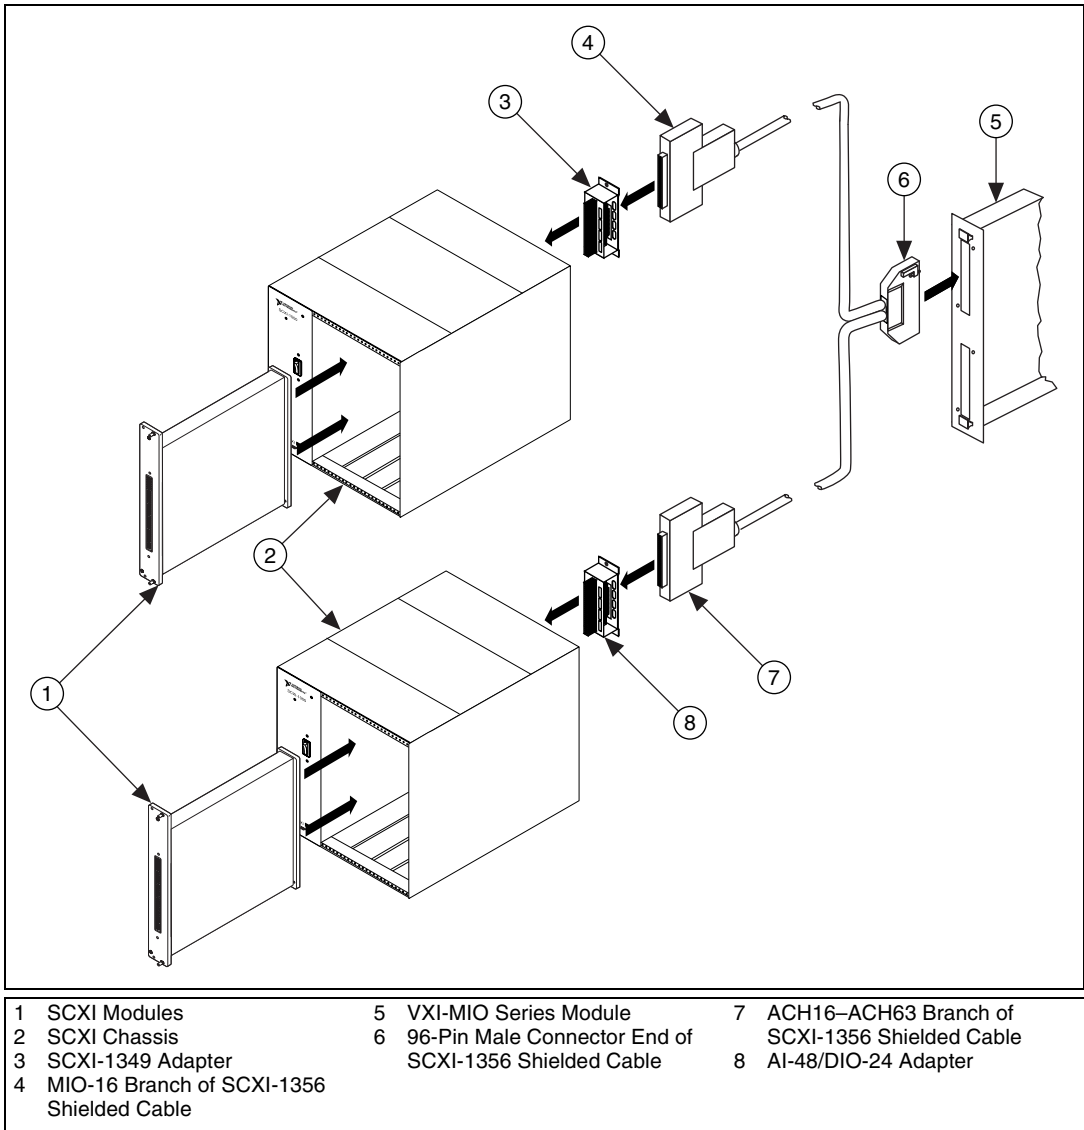
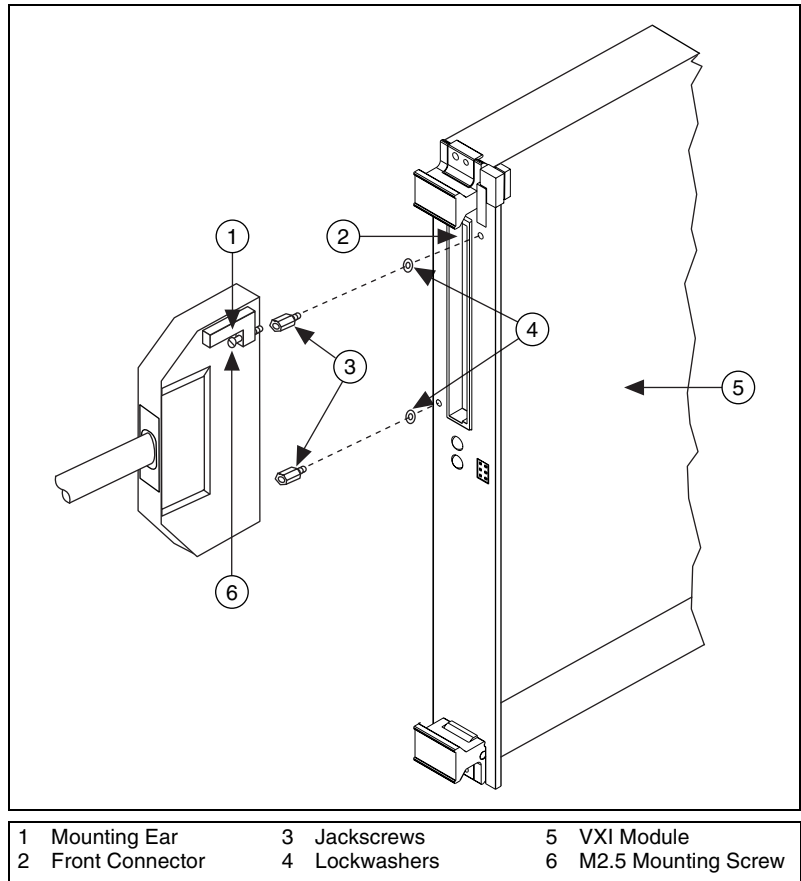

Figure 1. SCXI-1356 Installation Procedure
Figure 2. VXI Module Connection
With the SCXI-1356 shielded cable, you can make a low-noise, long-distance connection between a VXI-MIO Series module and two SCXI modules. The cable is available in 1, 2, 5, and 10 m lengths. The cable is Y-shaped, with a 100-pin male connector at one end and two 68-pin female connectors on the branched end. One 68-pin connector branch is labeled **MIO-16**, and the other is labeled **ACH16-ACH63**. Refer to Figure 1 for the parts locator diagram.
Perform the following steps to install the SCXI-1356. Refer to Figure 1 and Figure 2 as you complete the installation.
9. Install the jackscrews and lockwashers as shown in Figure 2.
10. Verify that the two backshell mounting ears are positioned as shown in Figure 2. If they are not, remove the mounting ears and install them in the correct position.
Figure 2 shows a closer view of the ACH16–ACH63 branch of the cable connecting to the VXI-MIO module.